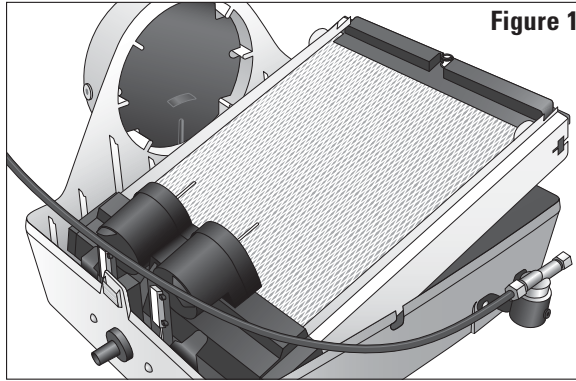

Figure 1
1. Remove front cover by pressing center tabs on top and bottom of the cover (1) and base (2). Pull feed tube (3) out of water distribution tray (4). Lift the Water Panel Evaporator assembly out of the base. (See Figure 1)
2. The unit comes assembled for left side discharge. If converting to right side discharge, the base can be rotated so round collar is facing to the right. Remove hole plug (10)